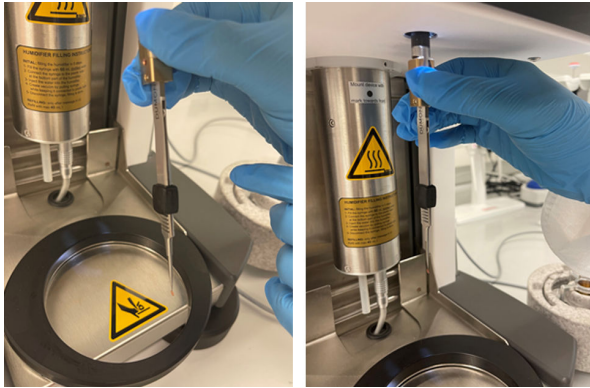

Figure 8 Tweezer docking procedure.
3. Clean tweezers with ethanol and mount to the Vitrobot™ shown in Figure 8 by docking onto the connection groove in the central axis rod.